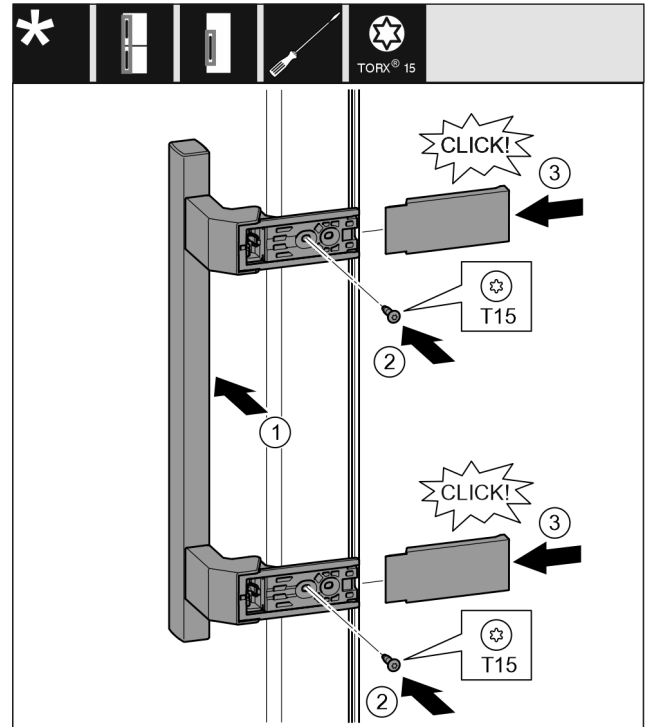

Fig. 38
- Position the handle on the opposite side. Fig. 38 (1)
- Tighten the screws using the T15 screwdriver. Fig. 38 (2)
- Position the covers on the side and push them on. Fig. 38 (3)